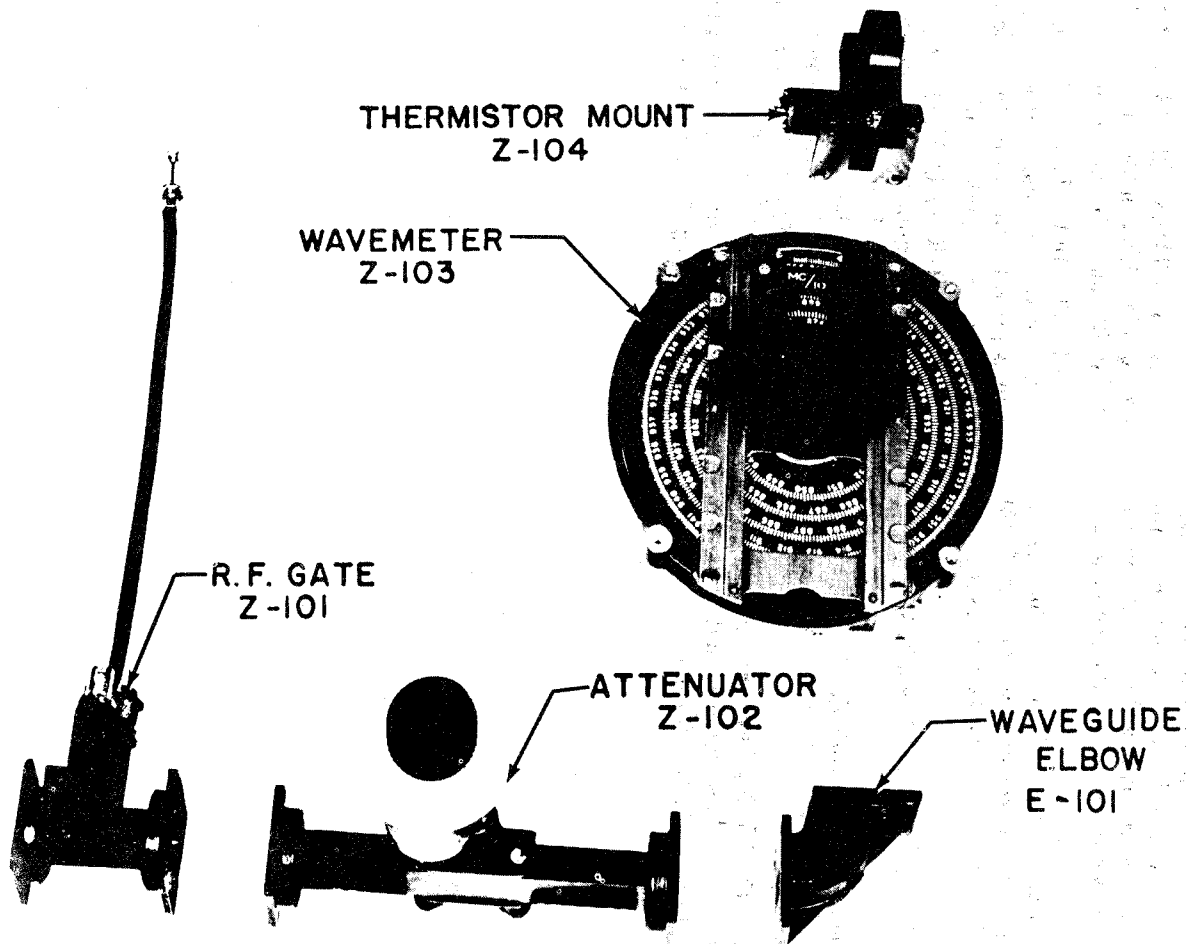

Figure 2-6. Microwave Circuit Assembly, Exploded View
d. RF GATE SUBASSEMBLY. (See figure 2-6.)—This subassembly includes the RF GATE and a SILICON RECTIFIER.
(1) RF GATE.—The RF GATE is used to check the zero balance without disturbing the attenuator setting. It is a plunger which introduces a high reactance in the waveguide. The depth to which the plunger travels is preset for optimum performance and should not be adjusted in the field.
(2) CRYSTAL MOUNT SUBASSEMBLY.—The CRYSTAL MOUNT proper is a section of waveguide housing a silicon rectifier and appended to the main waveguide circuit. A small percentage of the RF power is bled from the main waveguide through a small aperture and detected by the rectifier. The coupling coefficient is approximately 30 db (or 0.1%).
e. DBM CALIBRATED ATTENUATOR SUBASSEMBLY. (See figure 2-6.)
(1) The DBM ATTENUATOR is a section of waveguide which encloses a movable rectangular glass vane coated with resistive material. The vane is mounted parallel to the electric field on two sliding rods which are used to adjust its position between the walls. The two rods are driven by a linear cylindrical cam operated by the DBM knob. Since the electric field increases from zero at the wall, to a maximum at the center of the guide, the loss caused by the attenuator increases as the vane is moved toward the center of the waveguide.
(2) When the attenuator is adjusted to the correct position to balance the thermistor bridge, the DBM dial indicates directly the test signal-power level at the RF receptacle.
f. FREQUENCY METER SUBASSEMBLY. (See figure 2-6.)
(1) This subassembly includes the FREQUENCY METER RESONATOR and dial together with a short section of waveguide.
(2) The FREQUENCY METER proper is a cylindrical cavity resonator whose length, and therefore volume, is adjusted by means of a plunger. A common
g. THERMISTOR MOUNT SUBASSEMBLY. (See figure 2-6.)
(1) The THERMISTOR MOUNT is a section of waveguide which houses the THERMISTOR element of the thermistor bridge circuit.
(2) The BEAD THERMISTOR is mounted parallel to the voltage field in the waveguide. A matching stub is provided to match the section impedance to the connecting waveguide circuit.
(3) A DISK THERMISTOR for temperature compensation is mounted on the outside of the waveguide. This thermistor has a relatively large mass and its resistance is affected principally by the ambient temperature of the thermistor mount. The operation of the thermistor bridge circuit is described in paragraphs 2a(1) and 2a(2) of Section 2.
(4) The thermistor mounts can be interchanged without affecting the accuracy of power measurements.